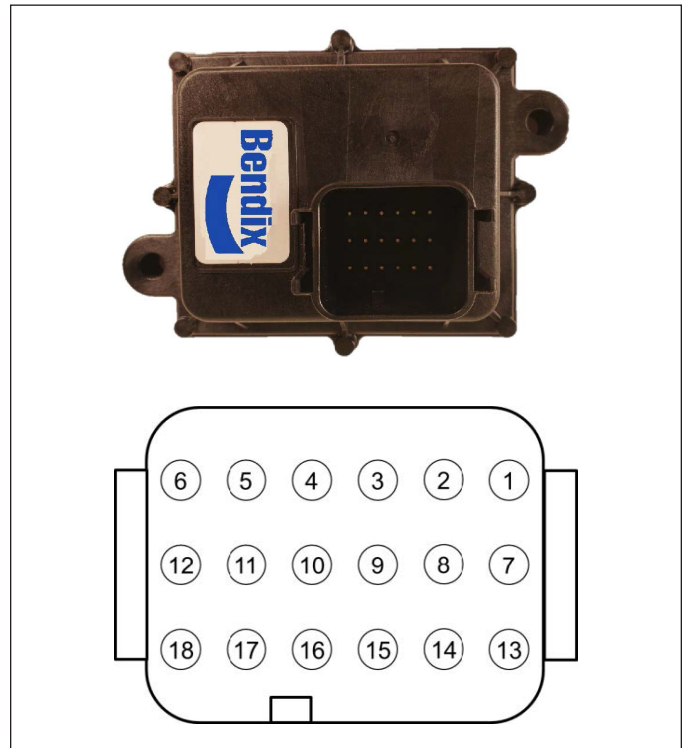

Figure 3 – Pin Assignments
The ADB wear-sensing ECU utilizes one (1) Deutsch connector for wire harness connections. See *Figure 3* and refer to *Table 2*.
<p>3. Locate the Bendix® iSense™ Pro ECU and disconnect the ECU Connector. Using a DMM in Continuity Check Mode and referring to Figure 3 and Table 2, check the continuity between the Sensor Ground Pin corresponding to the axle on which the Faulted Wheel End resides and the Sensor Signal Pin corresponding to the Faulted Wheel End within the ECU Connector.</p>	<p>Continuity Measurement Results</p> <ul style="list-style-type: none"> • Continuity is Present: Short circuit confirmed in vehicle harness. Short must be found and repaired. • Continuity is Not Present: Short not present between sensor line and sensor power. Proceed to Step 4.
<p>4. Locate the Faulted Wheel-end Brake and disconnect the Continuous Sensor Harness Connector. Locate the Bendix® iSense™ Pro Electronic Control Unit (ECU) and disconnect the ECU Connector. Using a Digital Multi-Meter (DMM) in Continuity Check Mode and referring to Figure 3 and Table 2, check the continuity between the Sensor Signal Pin corresponding to the Faulted Wheel End within the ECU Connector and Pin A within the Continuous Sensor Harness Connector.</p>	<p>Continuity Measurement Results</p> <ul style="list-style-type: none"> • Continuity is Present: Open circuit not present in sensor signal line. Proceed to Step 5. • Continuity is Not Present: Open circuit present in sensor signal line. <ul style="list-style-type: none"> o Check the entire run of the harness between the ECU Connector and the Continuous Sensor Harness Connector connected to the Faulted Wheel-end Brake. If damaged wiring is not found, proceed with replacing the ECU with a known good ECU. If the problem persists, further diagnostics is needed to locate the short. If the problem ceases, then proceed with replacing the ECU through warranty or aftermarket.
<p>5. Locate the Faulted Wheel-end Brake and disconnect the Continuous Sensor Harness Connector. Locate the Sense Pro ECU and disconnect the ECU Connector. Using a DMM in Continuity Check Mode and referring to Figure 3 and Table 2, check the continuity between the Sensor Ground Pin corresponding to the axle on which the Faulted Wheel End resides within the ECU Connector and Pin B within the Continuous Sensor Harness Connector.</p>	<p>Continuity Measurement Results</p> <ul style="list-style-type: none"> • Continuity is Present: Open circuit not present in sensor power line. Proceed to Step 6. • Continuity is Not Present: Open circuit present in sensor power line. <ul style="list-style-type: none"> o Check the entire run of the harness between the ECU Connector and the Continuous Sensor Harness Connector connected to the Faulted Wheel-end Brake. If damaged wiring is not found, proceed with replacing the ECU with a known good ECU. If the problem persists, further diagnostics is needed to locate the short. If the problem ceases, then proceed with replacing the ECU through warranty or aftermarket.